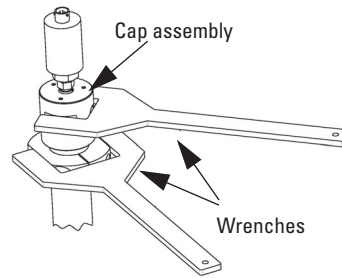

Figure 2-15 Removing the cylinder cap with wrenches
11. Using the two wrenches (supplied with the Wrench Kit) remove the cylinder cap assembly (Figure 2-15).